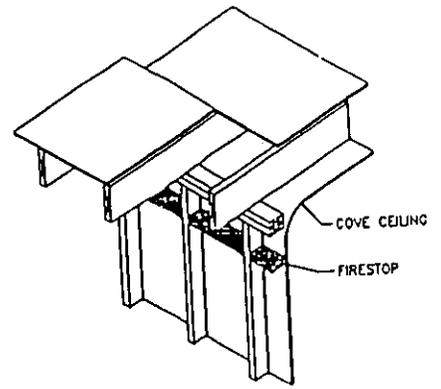
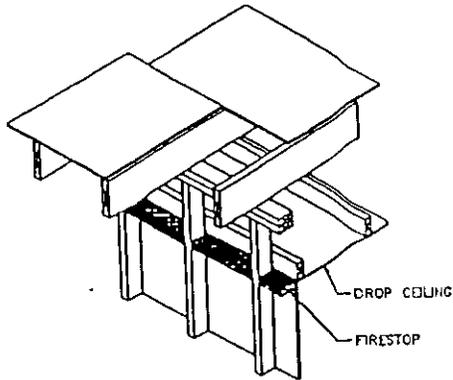

FIGURE 602.7e
FIGURE 602.7d
2. At all interconnections between concealed vertical and horizontal spaces such as soffits (Figure 602.7c), dropped ceilings (Figure 602.7d) and cove ceilings (Figure 602.7e). Interconnections such as shown in Figure 602.7f for a bathtub installation must also be firestopped.